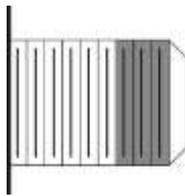
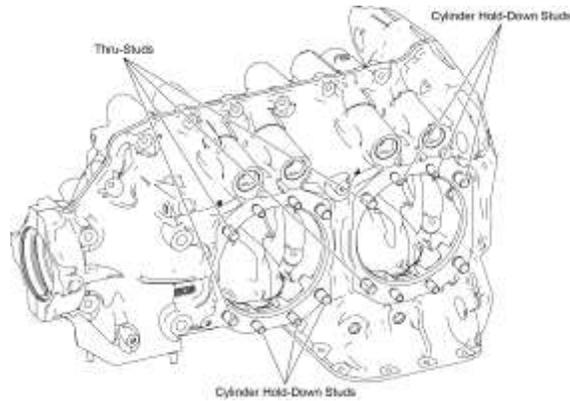

Figure 25A
Figure 25B
D. Apply one or a combination of any of the following lubricants to the outer three threads (Figure 25A) on all of the crankcase thru-studs and cylinder hold-down studs (Figure 25B):